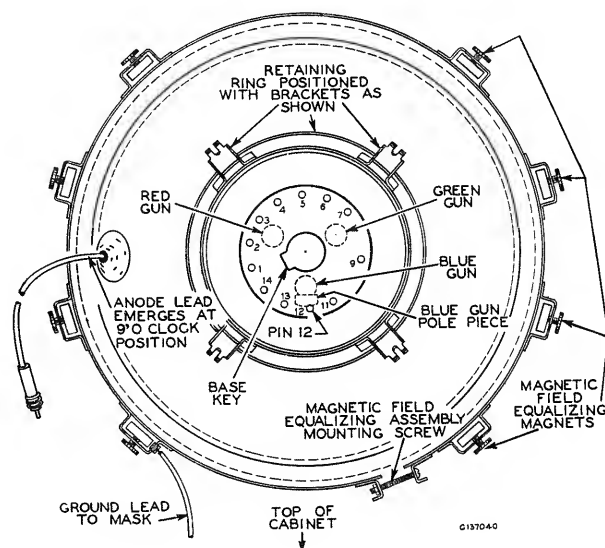
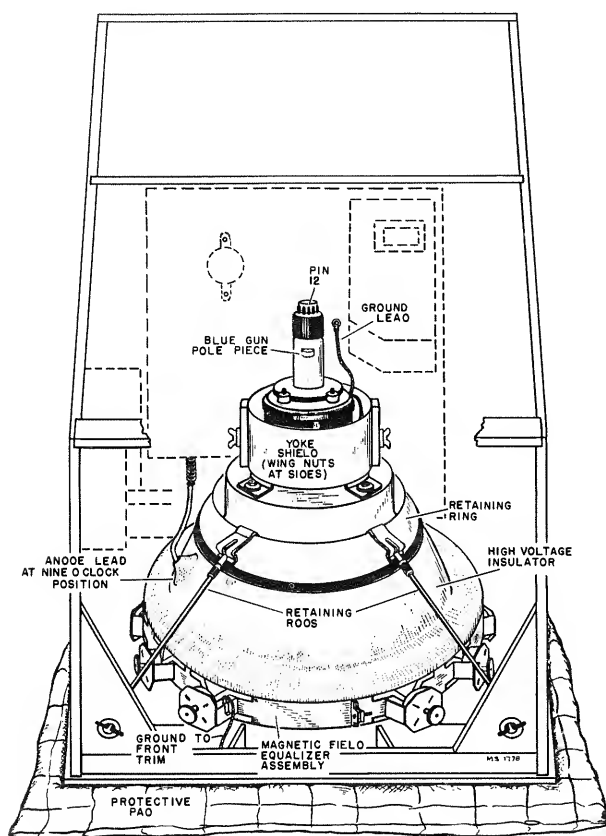

Figure 4—Kinescope Assembly
Figure 5—Kinescope Installation
**INSTALLATION OF KINESCOPE.** — Take the kinescope from its carton, observing the precautions in handling as noted previously. Place the rubber ring cushion around the front flange of the kinescope. Grasp the kinescope by the inner flange and place it into the front mask with the blue gun facing you. The position of the blue gun may be determined from the numbers moulded into the kinescope base. The blue gun is located next to pin 12. The blue beam positioning pole piece attached to the blue gun is another means of identification. (Refer to figure 4.)
Place the magnetic field equalizing magnet assembly over the front of the bell between the two flanges with the magnets at each side of the kinescope as shown in figure 4. Fasten the ground lead clip to the magnet assembly.
Slide the yoke and yoke shield assembly over the kinescope neck with the wing nuts at the sides. The yoke leads should be located at the bottom. Place the retaining ring over the yoke shield with the brackets positioned as shown in figure 4. Slip the retaining rods into the slots in the retaining ring and tighten just finger tight. The assembly should appear as shown in figure 5. The receiver may now be returned to an upright position.
**COLOR PURITY ADJUSTMENTS.** — Set all the magnets on the field equalizing assembly at their maximum distance from the kinescope. These magnets have two adjustments. They are moved toward or away from the kinescope by slipping the shaft on its threads, and they may also be rotated on the threads with the adjustment knobs, see figure 4.